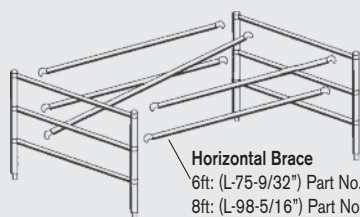

Figure 5: Outriggers
ALWAYS use (4) four OUTRIGGERS if the platform height will exceed three (3) times any minimum base dimension (see Figure 5, page 3). Platform height must never exceed three (3) times the minimum base dimension.